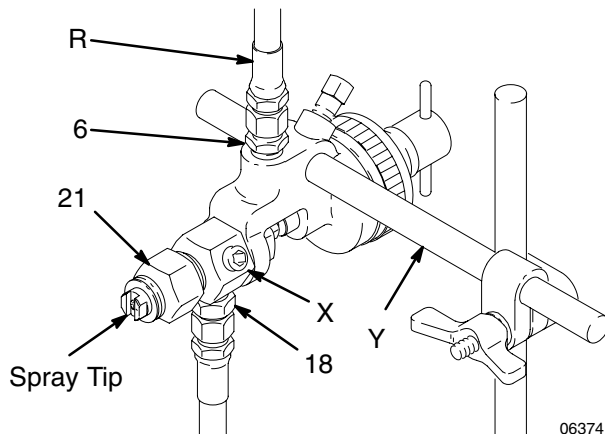
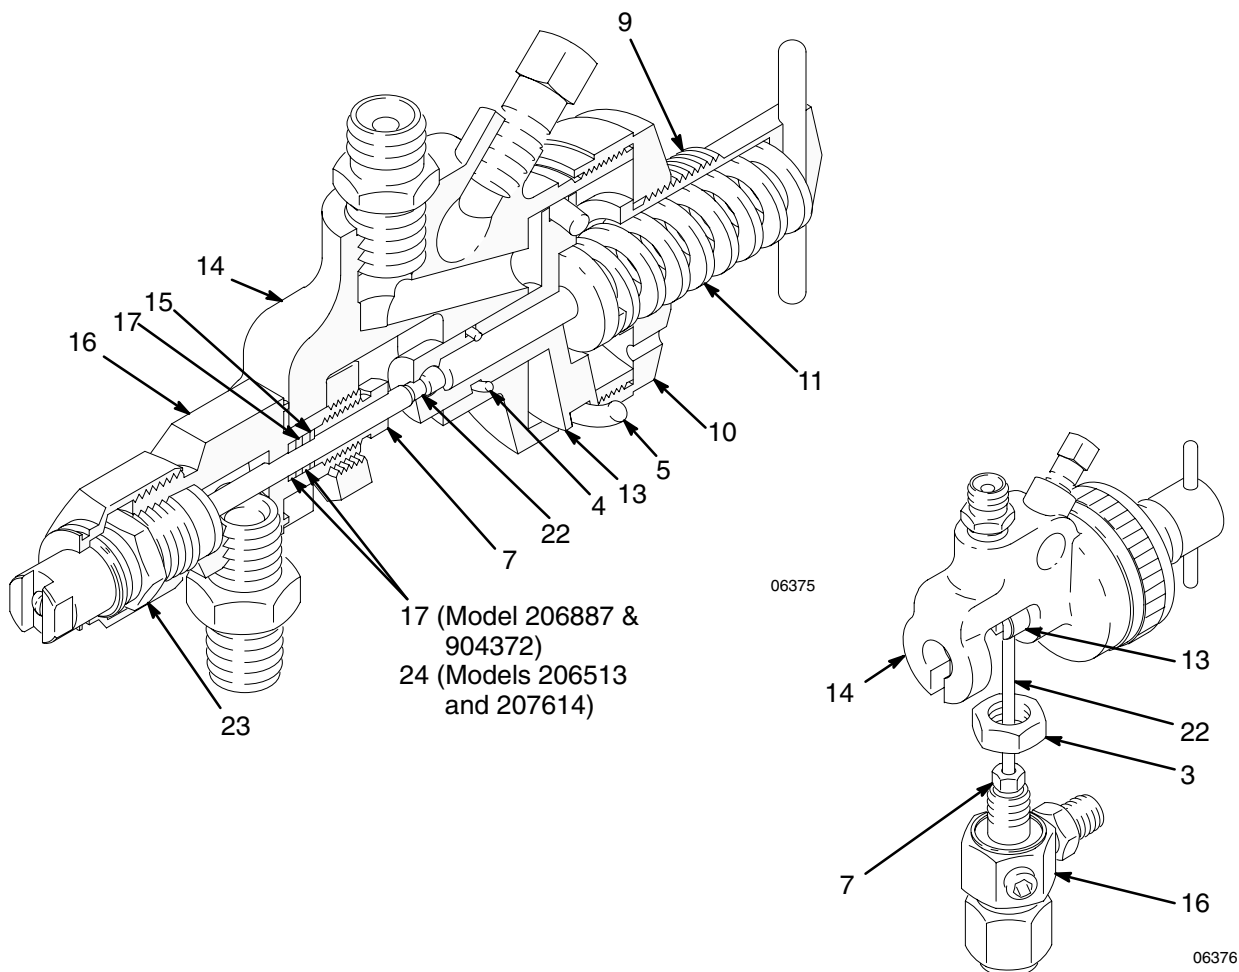

Fig. 1
Fig. 2
NOTE: Reference numbers and letters in parenthesis in the text refer to the callouts in the Typical Installation, Fig. 1, Fig. 2, and the parts drawing.
Mount the gun on a 0.50 in (12.7 mm) diameter rod (Y) on a mounting fixture or a spray machine. See Fig. 1 and the Typical Installation. The gun tip should be 12 in (305 mm) from the surface of the workpiece (V).
Use a normally closed 3-way air solenoid valve (J) to control the spray gun (P). Attach a grounded air supply line (R) from the 3-way valve to the 1/4 npsm(m) air inlet adapter (6) of the gun. See Fig 1.
Relieve the pressure and close the air valves. Unscrew the tip retainer (21) and install the tip, then tighten the retainer. See Fig. 1. Be sure the gasket (19) is installed between the tip and valve seat (23) to prevent leaking. If you are using a tip filter accessory kit on Models 206513 or 206887, remove the tip retainer (21) and gasket (19) and install the kit with your tip. See Fig. 2.
Before each day's operation, lubricate the exposed portion of the needle (22) and the piston (13) with a lubricant compatible with the fluid being sprayed. After lubricating, cover the exposed portions of the needle and piston with a piece of plastic to prevent fluid build-up on these parts. Any spray build-up could damage the valve packings (Parts 17 and 24 on Models 206513 and 207614, Part 17 only on Models 206887 & 904372). See Fig. 2.
Screw the packing nut (7) out and remove the packings (17 or 24), gland (15), and needle (22). Remove the tip and screw the seat (23) out of the housing. See Fig. 2. Handle the needle and seat carefully and inspect them closely for wear or damage. Reassemble the gun using new parts as necessary. Soak a new leather packing in light, compatible oil before installing it.